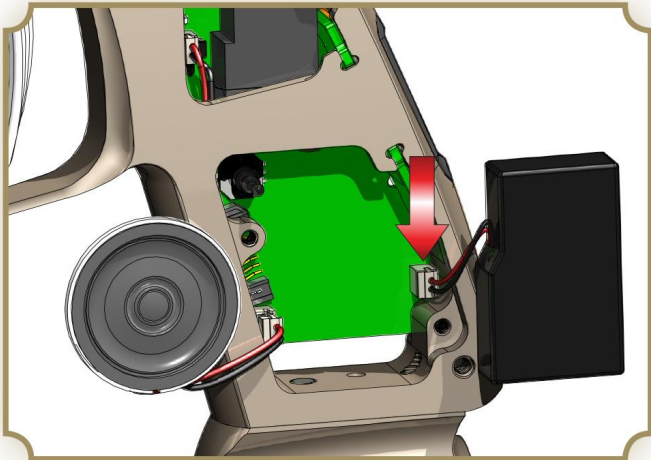

FIG. 2
**DO NOT PLUG A BATTERY INTO THE SPEAKER CONNECTION [FIG.2.] AS CIRCUIT BOARD DAMAGE MAY RESULT.**